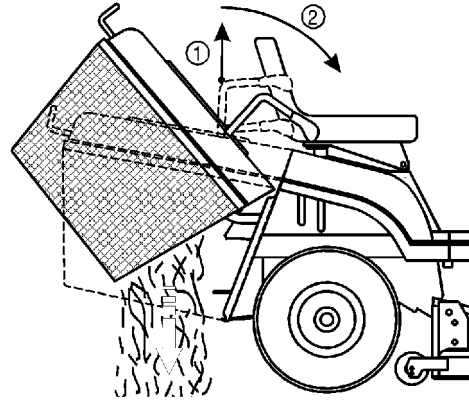

Figure 15
2. Pull out the telescoping dump lever and push it forward and down to empty the grass collector (Fig. 15).